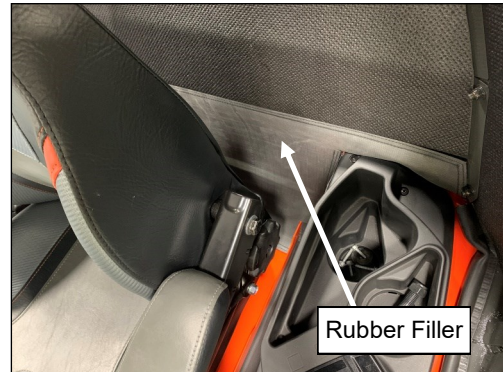

Fig. 10.4 (Filler Location)
- 10.4 See fig. 10.4. Install the upper portion of the rubber filler along the bottom edge of the rear panel to locate it and then secure under the seat and along the sides.